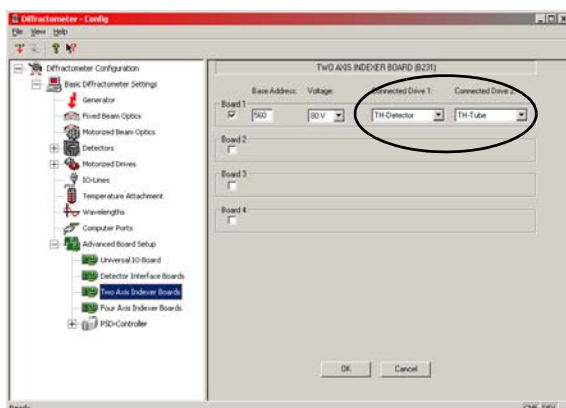
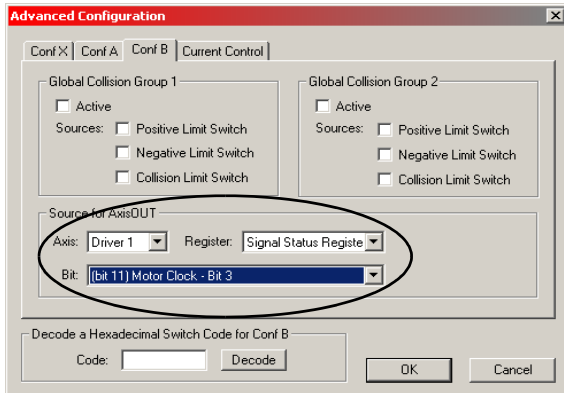

Figure 4.13 - Manual settings for TH-TH
Figure 4.15 - Motorized Drives section – TH-Detector – Advanced Configuration
2. Select **Advanced Board Setup > Two Axis Indexer Boards**. Ensure that physical drive 1 is connected to logical axis **TH-Detector**, and physical drive 2 is connected to logical axis **TH-Tube** (see Figure 4.13).
4. Answer **Yes** to the confirmation message and click **Additional Settings**. The following box appears (Figure 4.15). Select the axis that should deliver the Clock signal. Because the logical axis TH-Detector is sending the clock signals, this motor axis has to be chosen. From Figure 4.13, the “Axis” must be **Driver 1**. Set “Register” to **Signal Status Register** and “Bit” to **(bit 11) Motor Clock - Bit 3**.